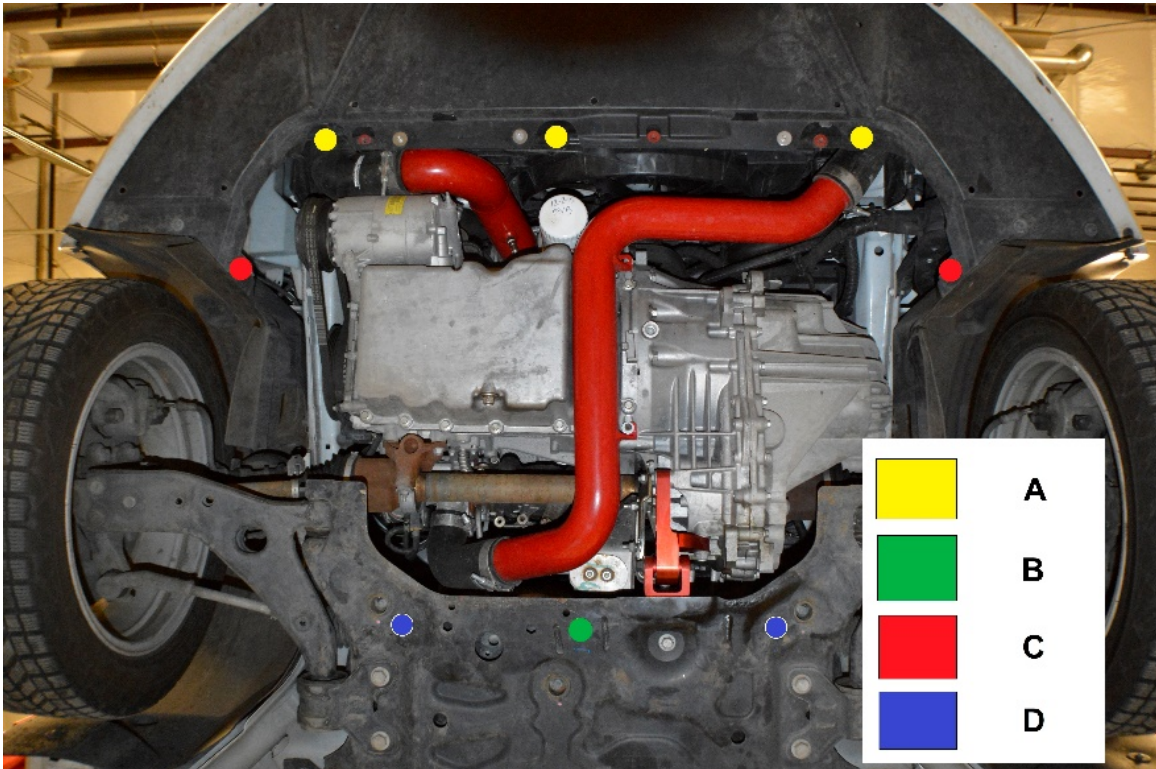

FIGURE 2 - FASTENER LOCATIONS
1. **Remove the OEM engine splash guard/belly pan** using T30 Torx driver. Then, using a small flathead screwdriver, **remove the OEM fasteners** from the subframe and the radiator support. It is only necessary to remove the OEM fasteners from the locations specified in Figure 2.
3. **Install Fastener A standoffs-** Using the wide rivet nut washer, center it over a rivet nut in position **A** (yellow) from Figure 2. Thread one end of **Fastener A** into the rivet nut, ensuring the washer doesn't rest on the rivet nut. See Figure 3 for example. Repeat this for all rivet nuts in position A.
4. **Install Fastener B standoff-** Thread the **Fastener B** into the rivet nut in the center of the subframe, position B (green) from Figure 2, using the same wide rivet nut washer as in Figure 3.
5. **Install Fastener D standoffs-** Thread the two **Fastener D** standoffs into the two outside rivet nuts in the subframe, position **C** (blue) in Figure 2, using the same wide rivet nut washer in Figure 3.